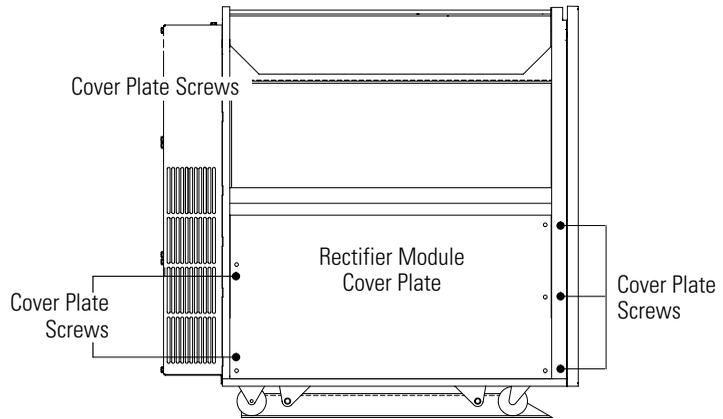

Figure 8. 8 kVA - 18 kVA UPS with Left Side Panel Removed
5. Locate the cover plate for the Rectifier Module on the left side of the UPS (see Figure 8).